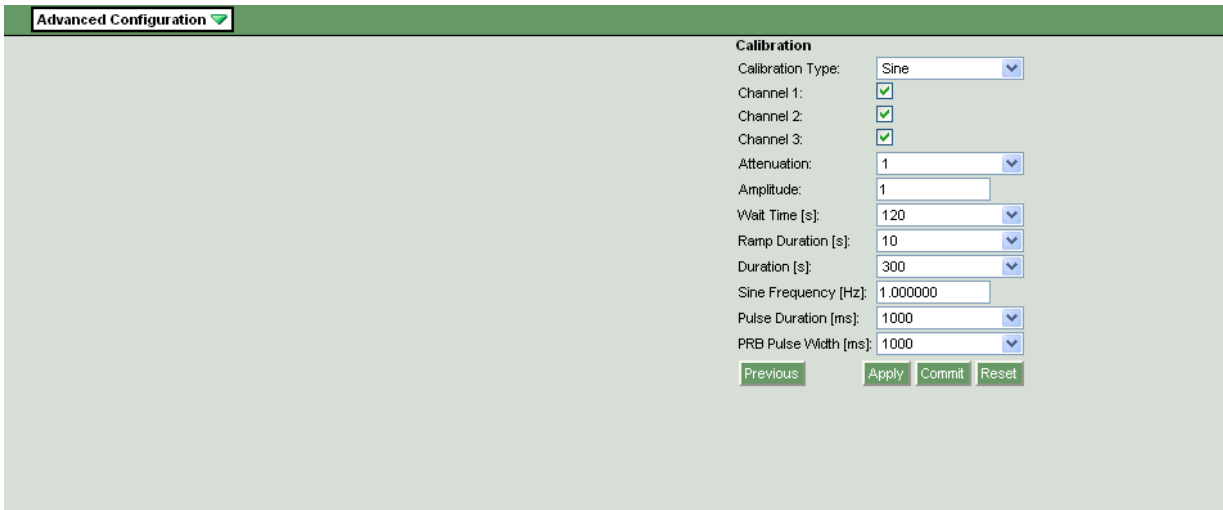

Figure 1: Calibration Signal Configuration
- Configure calibration settings as shown in Figure 1 under Advanced Configuration > Calibration, setting the frequency to 1 Hz.